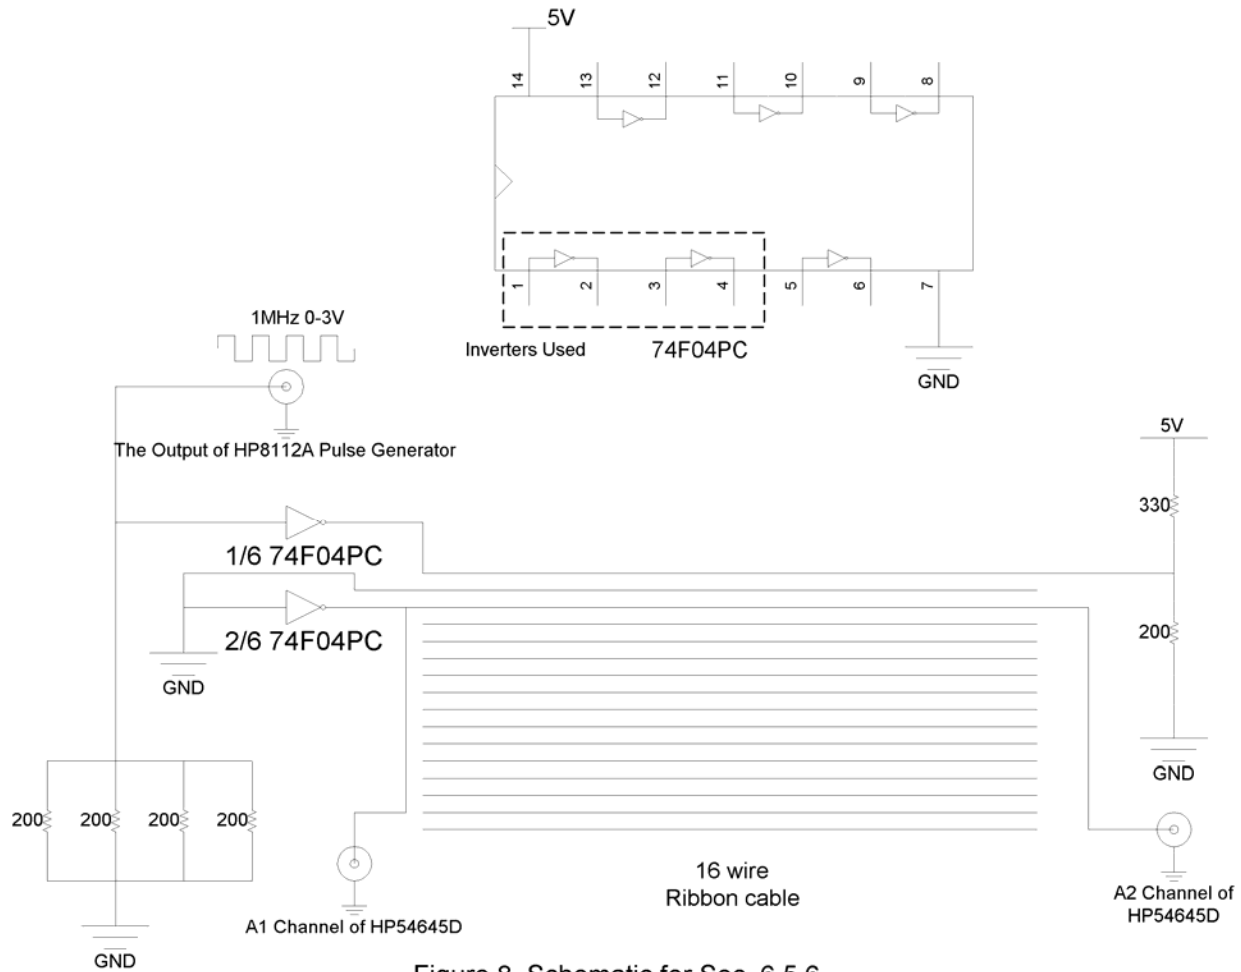

Figure 8 Schematic for Sec. 6.5.6
6. Finally, connect the wire carrying no signal to ground, thus introducing a shield between the two signals. How does this affect the settling time and overshoot of the  $V_{CC}$  signal's oscillation? Show the TA the difference in the two waveforms and explain what is happening. Refer to Figure 8 for schematic.